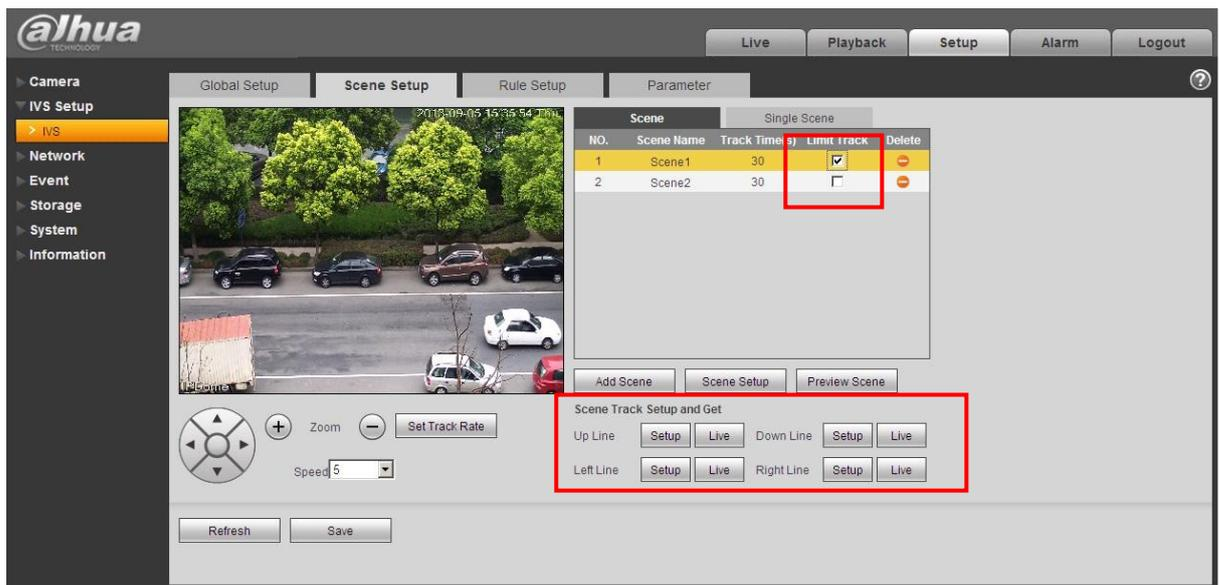

Figure 3-3
- 4) Set limited scene (Optional): Please check the corresponding box to enable the limited track function. Please select the track line at the right pane of the interface. Please use the PTZ direction and zoom button to set the up/down/left/right line. Click the save button to complete setup. See Figure 3-3.